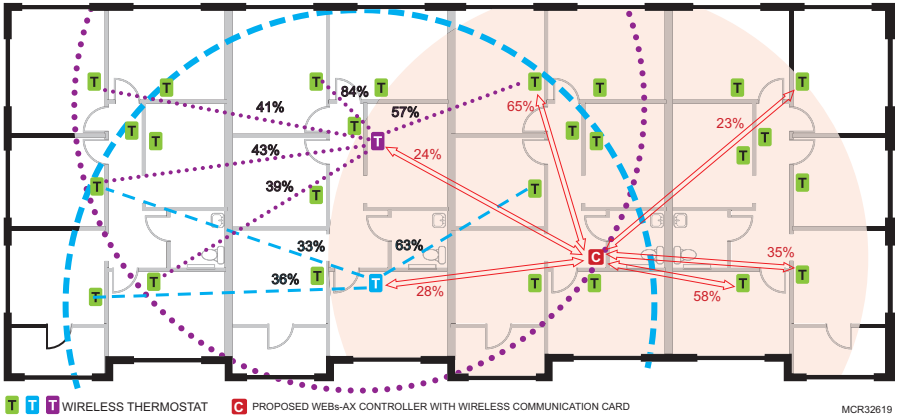

Fig. 11. Proposed floor plan with three hop radiuses.
6. Next test the signal strength at each location where a thermostat is to be installed. The signal strength at each location can be anywhere from 10% to 100%. Testing each proposed thermostat location ensures no unexpected obstacles or unforeseen sources of interference will affect each wireless thermostat at the time of installation. Fig. 11 shows the Proposed Site Floor Plan Example with three hops as indicated by the gray arc (hop 1), the dashed line arc (hop 2) and the dotted line (hop 3).